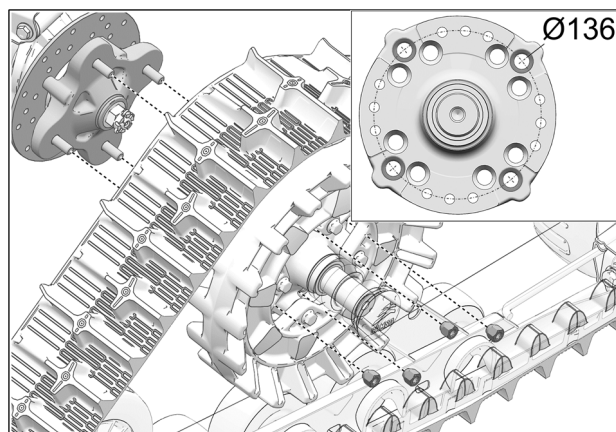

Fig. 9
- Secure undercarriage to rear hub using the vehicle's own lug nuts. Use bolt circle $\varnothing 136$ mm. See Fig. 9